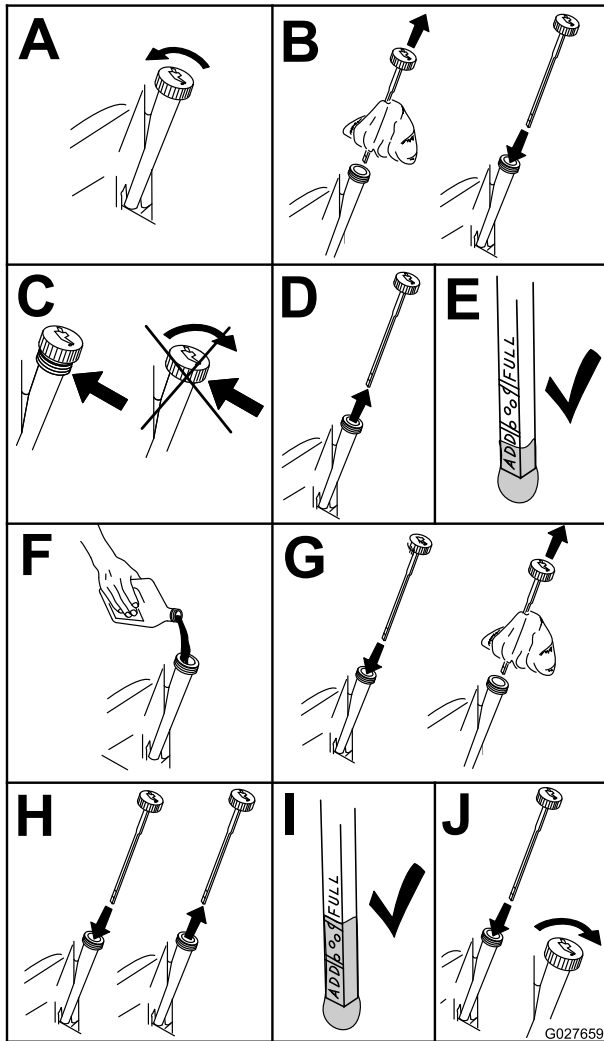

Figure 49
- Stop the engine, remove the key, and wait for all moving parts to stop before leaving the operating position (Figure 49).